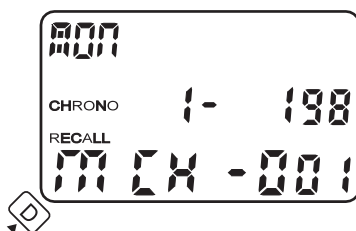

Fig. 8
- Press D to recall data stored. The display which we call the RACE RECORD is as shown in Fig. 8. The display shows the date in which the race was recorded and MCH-001 (MSP for SPEED mode) stands for the first race recorded in LAP/SPLIT mode at that date.